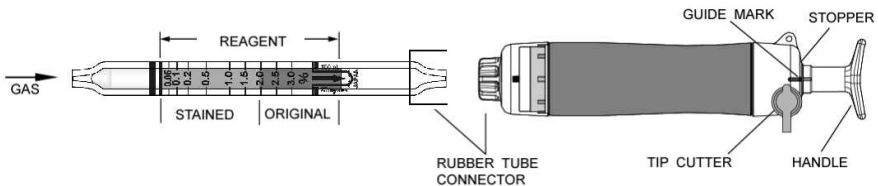

Fig.1
- ② Insert the detector tube into the aspirating pump securely as shown in Fig.1. (Arrow mark shall point to the pump.)
- ③ Align the guide marks on the shaft and stopper of the aspirating pump.
- ④ Pull the pump handle at a full stroke until it locks and wait for 1.5 minutes or until the completion of sampling is confirmed with the flow indicator of the pump. (See descriptions about the flow indicator in the instruction manual of the pump)
- ⑤ On completion of sampling, read the scale at the maximum point of the stained layer.
- ⑥ When the concentration is over the scale range, a 1/2 pump stroke can be used to determine concentrations of 1.0 - 5.0%.